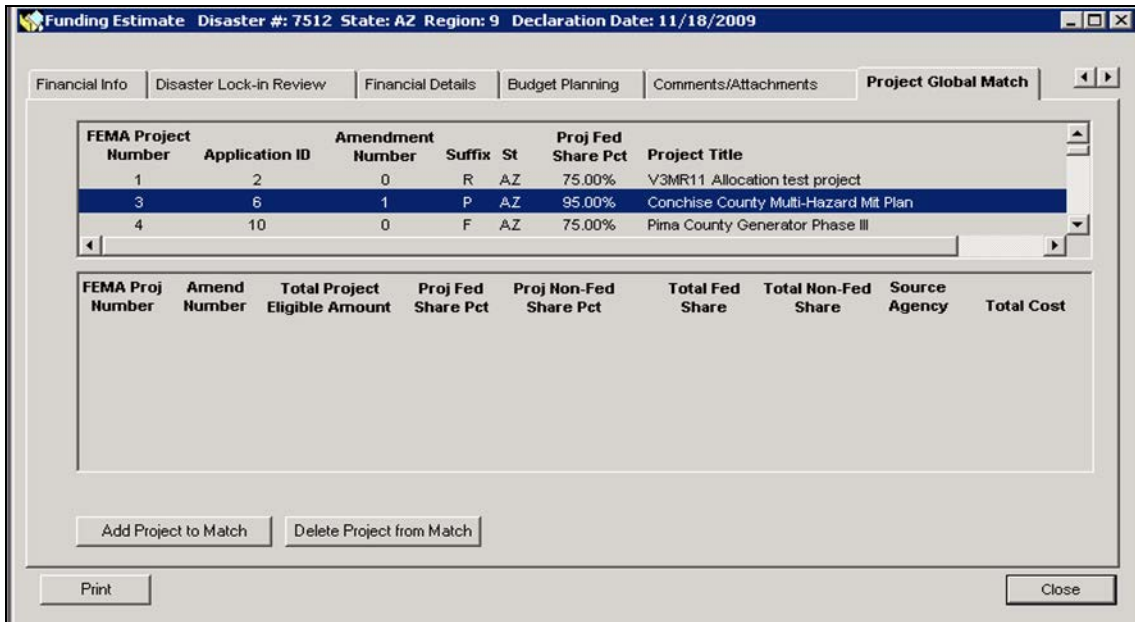

Figure 11-53: Select Project for Global Match
5. Scroll down to find the project that has a Project Fed Share Pct other than 75 percent. Highlight the project (Figure 11-53).